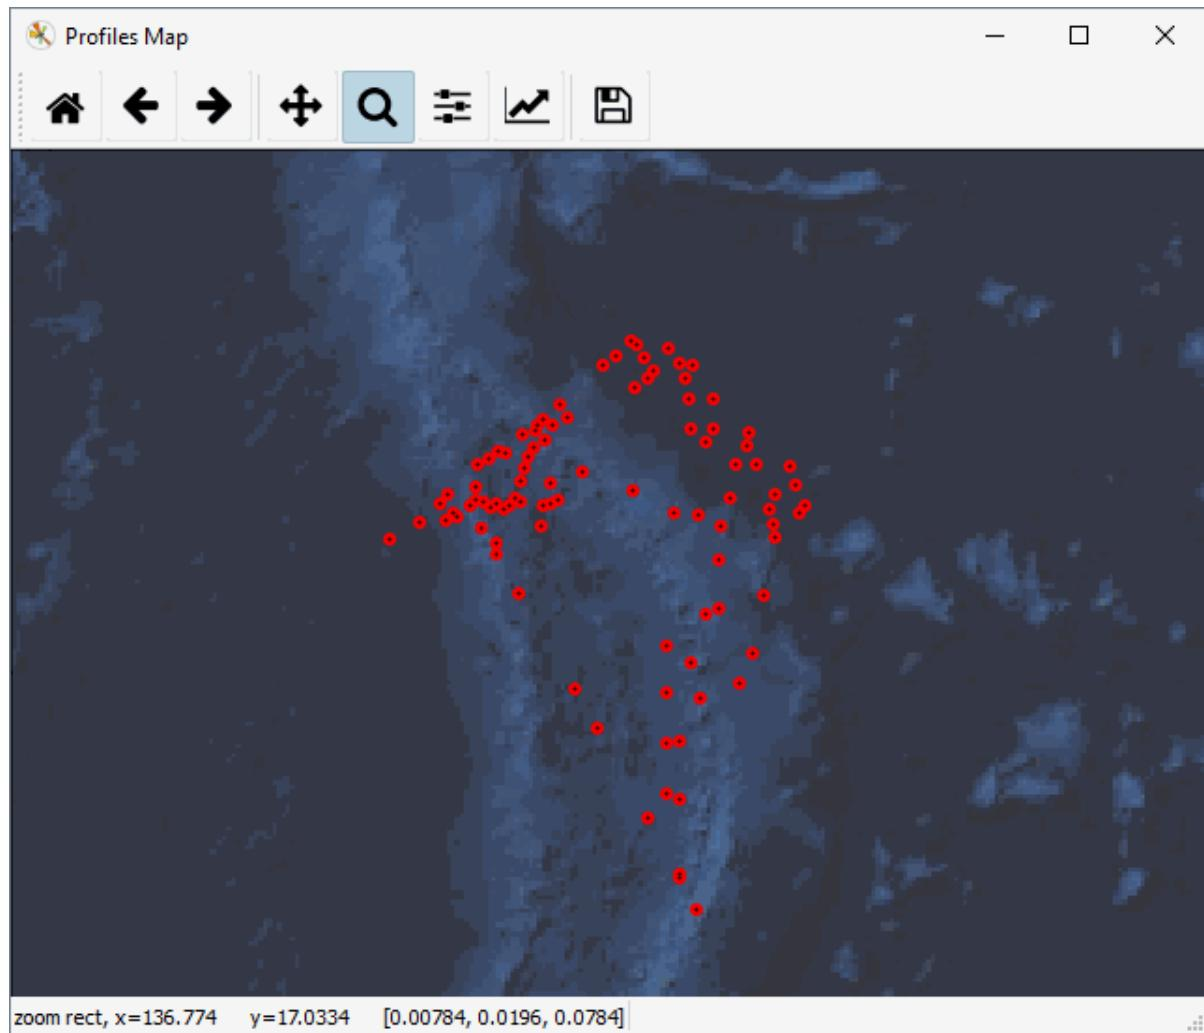
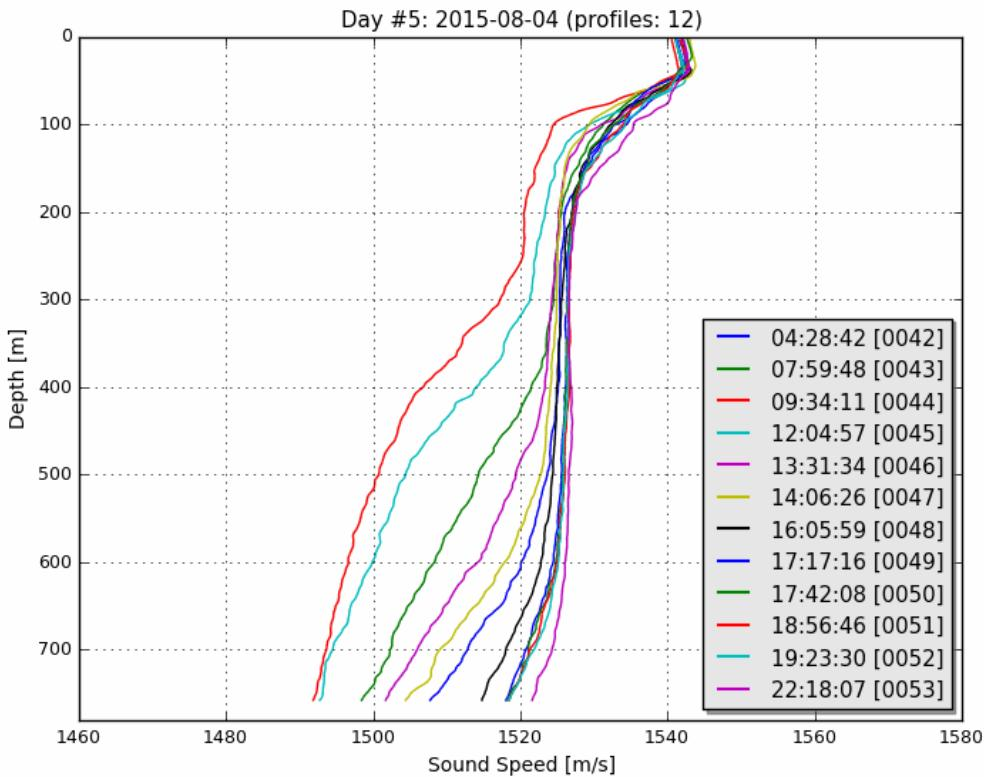
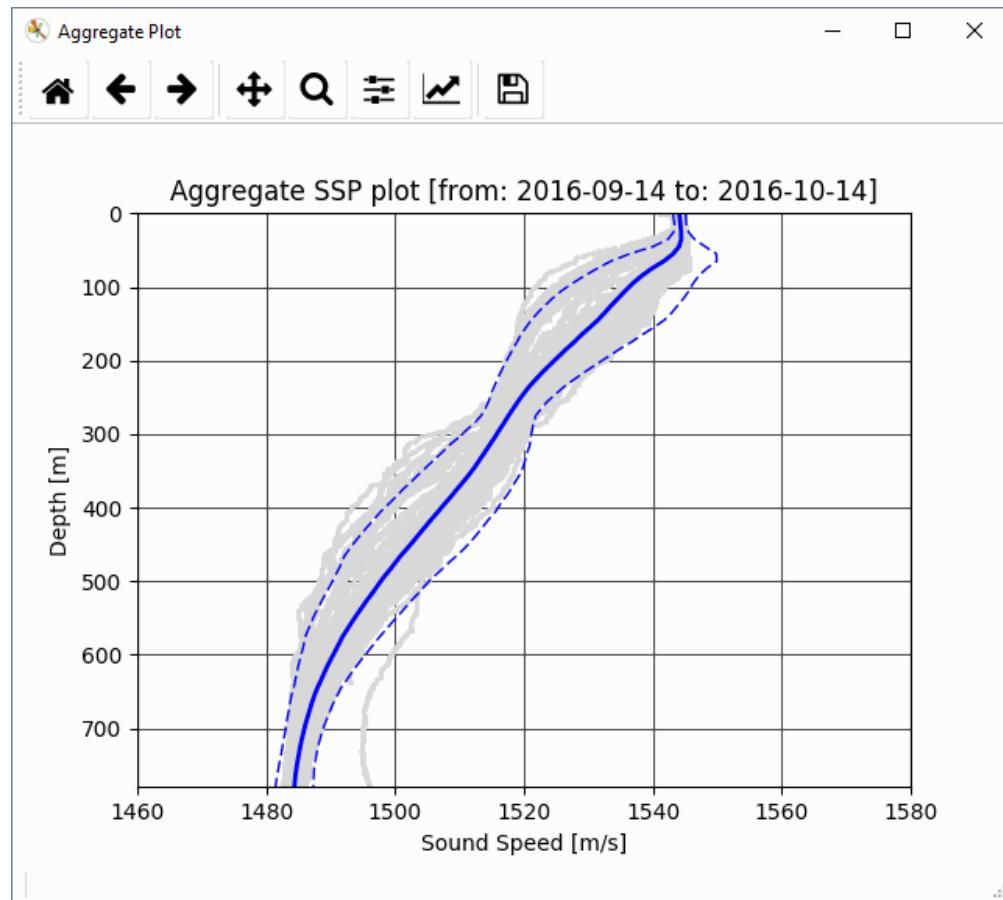

Fig. 2.55: Example of a map created from a stored SSP data set.
Fig. 2.56: Example of a daily plot that can be created from a stored SSP data set.
Fig. 2.57: Example of aggregate plot to study the sound speed variability during a selected time span.
- Create maps (Fig. 2.55) and plots (Fig. 2.56 and Fig. 2.57).